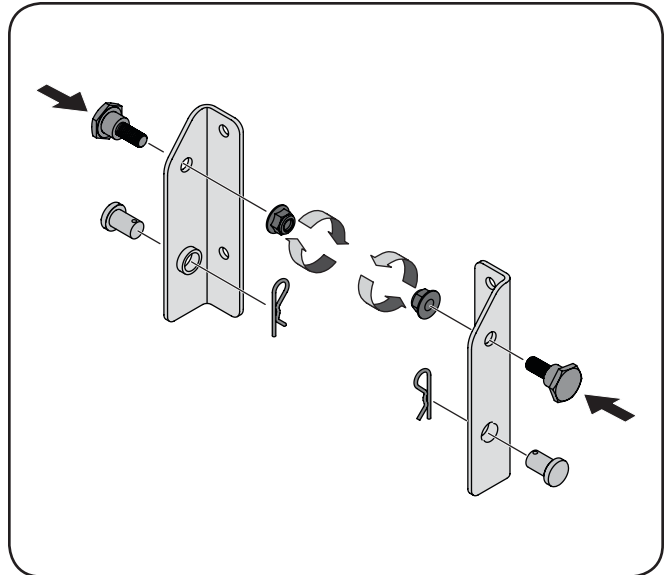

Figure 3-1
1. Install a shoulder bolt from your hardware pack on each bracket, securing them with flange lock nuts also included in the hardware pack. Refer to Fig. 3-1.
2. Insert the clevis pins from your hardware pack on each bracket, securing them with clip pins also included in the hardware pack. Refer to Fig. 3-1.